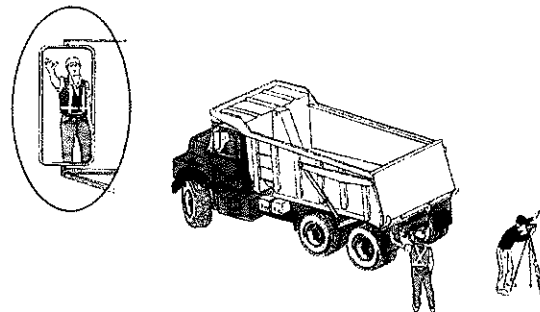
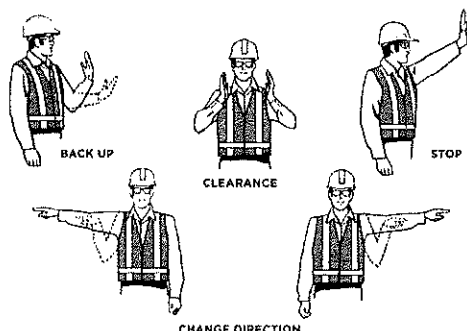

Figure 28-4: Use a Signaller
Figure 28-5: Traffic Control Hand Signals
The signaller must maintain clear and continuous visual contact with the operator at all times while the vehicle or equipment is moving (Figure 28-4), and must be able to communicate with the operator using clearly understood, standard hand signals (Figure 28-5).
- Know and use the standard signals for on-site traffic (Figure 28-5).